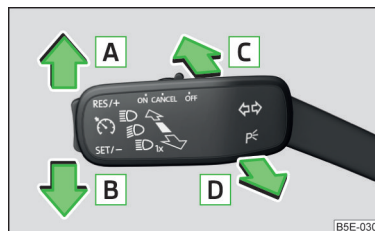

Fig. 49
- Pull the turning signal and main beam lever (» Fig. 49 on page 71) towards the steering wheel, push down and hold in this position.
Lever positions » Fig. 49